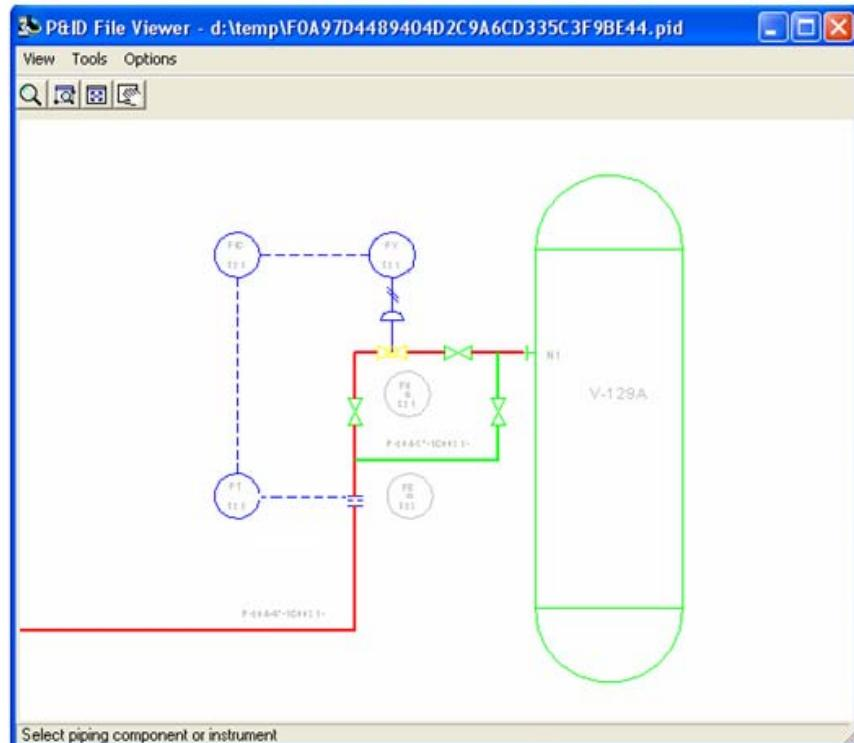

Figure 42: Selected Instrument
25. The **P&ID File Viewer** window appears. In the **P&ID File Viewer** window, select the instrument located in the pipeline, as shown in Figure 42.